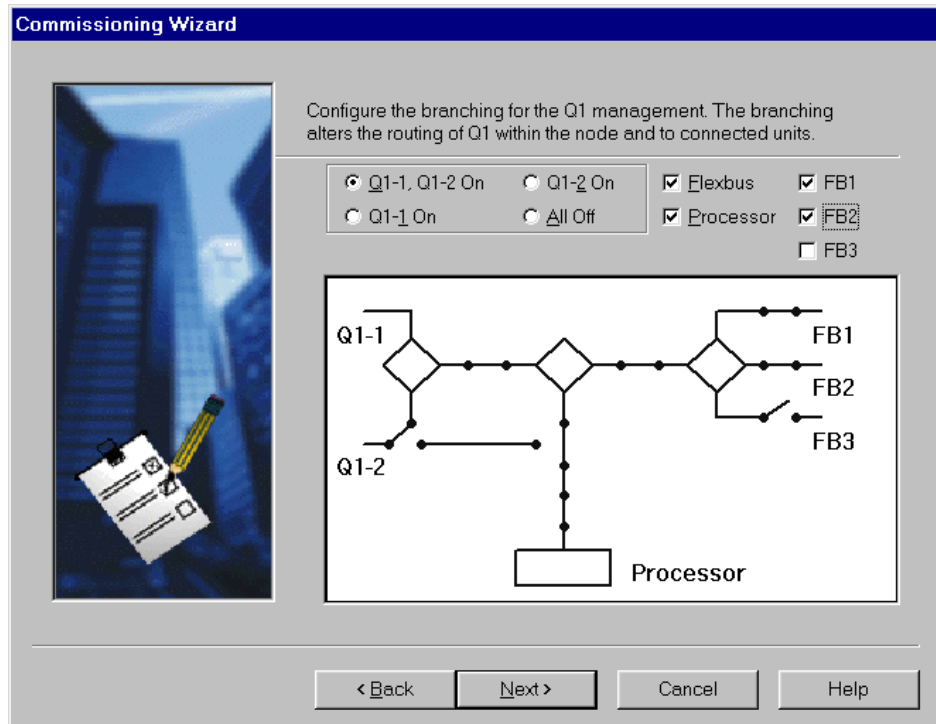

Figure 48. Example of the Q1 branching bridge settings
5. Set Q1 branching bridges (Figure 48).